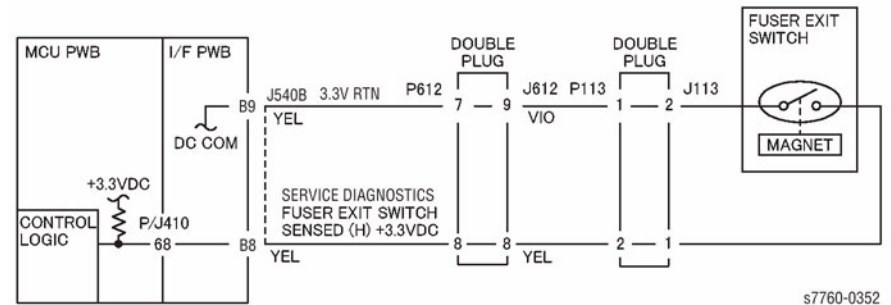
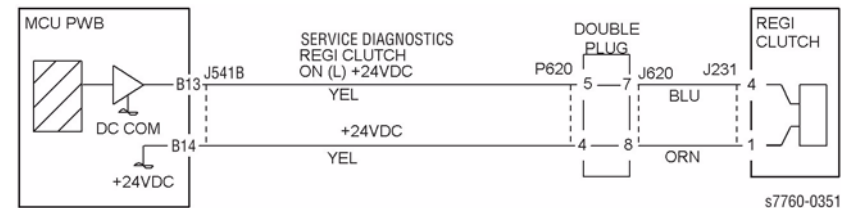

Figure 1 008-184 Fuser Exit Switch
Figure 2 008-184 Registration Clutch
- Ensure that the connectors shown in the circuit diagrams (Figure 1, Figure 2) are securely connected and that the wires are not damaged.